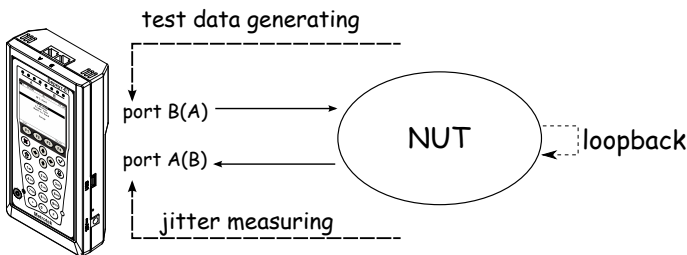
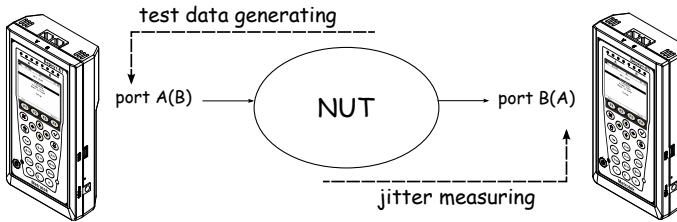

Figure 5.93. Jitter measurements. Scheme 2
Figure 5.94. Jitter measurements. Scheme 3
- test data is generated at one port, and then jitter is measured at another one (see fig. 5.93); in this case, destination port could be a port at a remote device (see fig. 5.94).